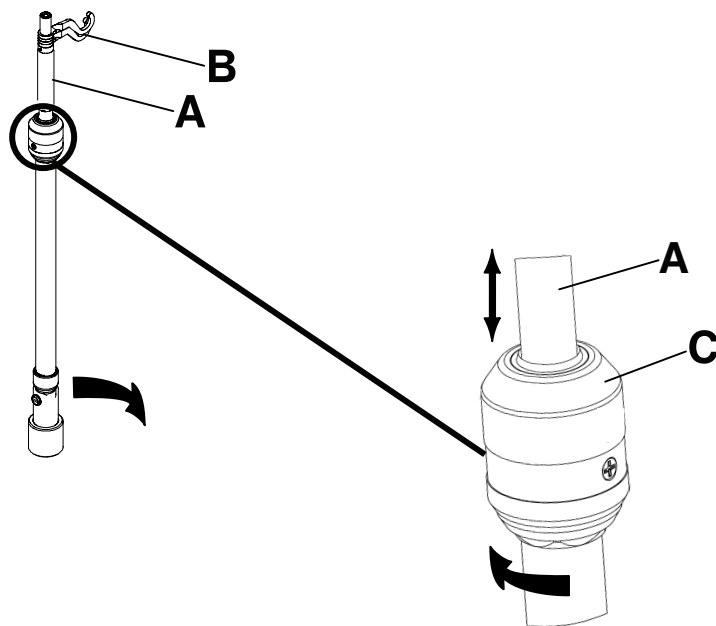

Figure 113: Operating the IV pole
3. To raise the height of the pole, pull up on the telescoping portion (A) until it locks into place at its fully raised position (Figure 113 on page 97).
4. Rotate the IV hangers to the desired position and hang the IV bags (B) (Figure 113 on page 97).
5. To lower the IV pole, turn the latch (C) until the telescoping portion lowers (Figure 113 on page 97).